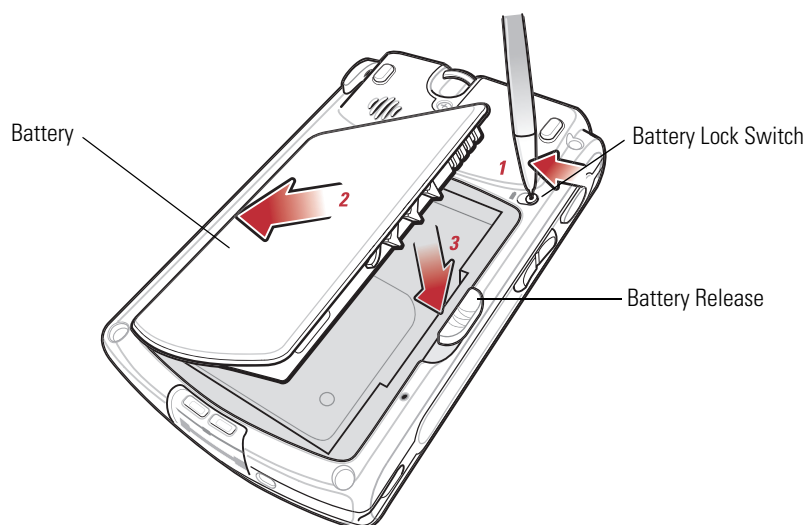

Figure 1-1. Inserting the Battery
2. Insert the main battery into the back of the mobile computer as show in Figure 1-1.